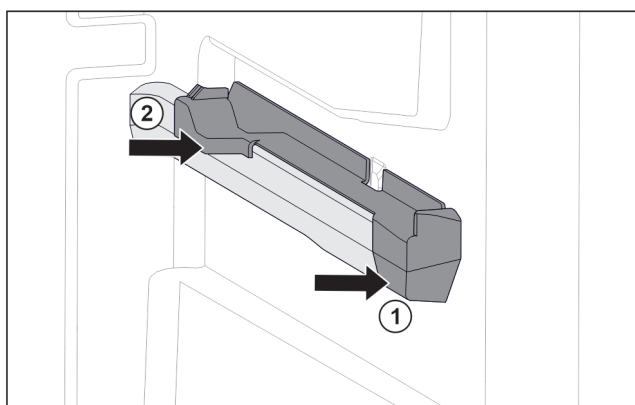

Fig. 75 Attachment on the right moulded rib
- ▶ Position attachment on moulded rib at the front. Fig. 75 (1)
- ▶ Press on attachment at the back. Fig. 75 (2)